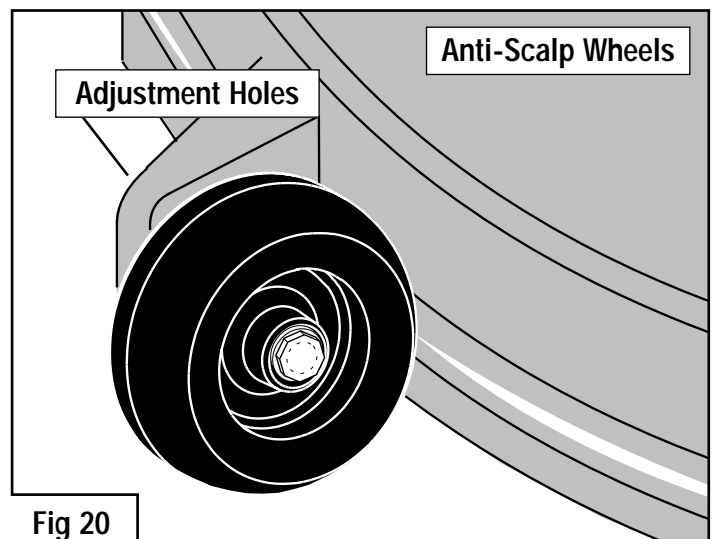

Fig 20
1. Ensure that the Anti-Scalp Wheels are all set to the same height – if not, rectify (fig 20).
ANTI-SCALP WHEELS - Fig 20
For the closest cut, set the Anti-Scalp Wheels (Page 9, fig 20) in the middle adjustment holes. If you are experiencing scalping, this can be minimised by setting the wheels in the lowest adjustment holes.